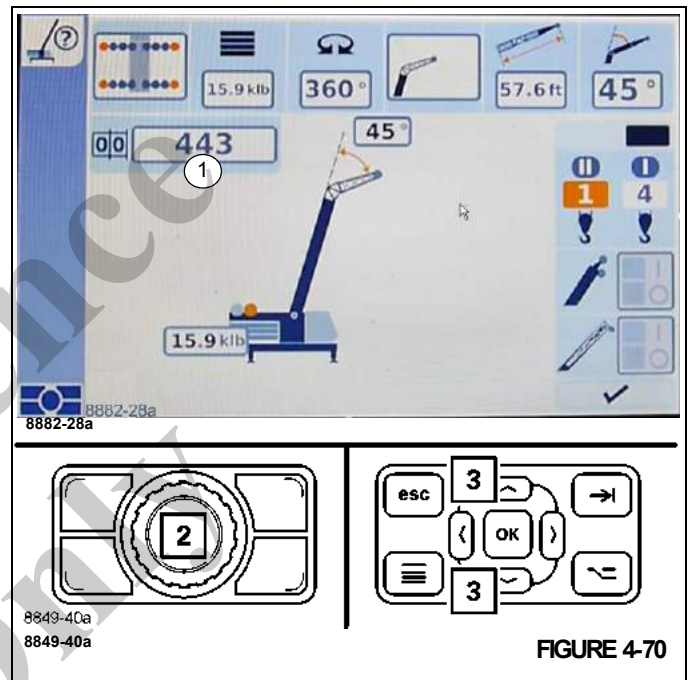

FIGURE 4-70
- Select and confirm the symbol (1), (Figure 4-70)).
- Use the buttons (2), (Figure 4-70) or (3), (Figure 4-70) to select the required RCL Code.